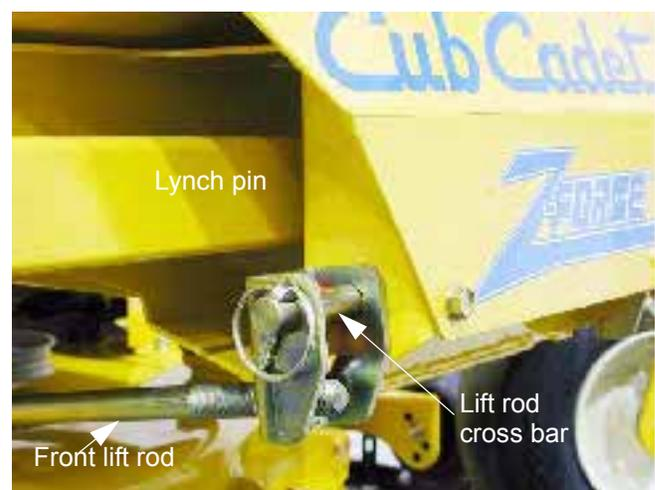

Figure 2.9
- 2.9. Remove either lynch pin from the lift rod cross bar, and withdraw the bar. See Figure 2.9.